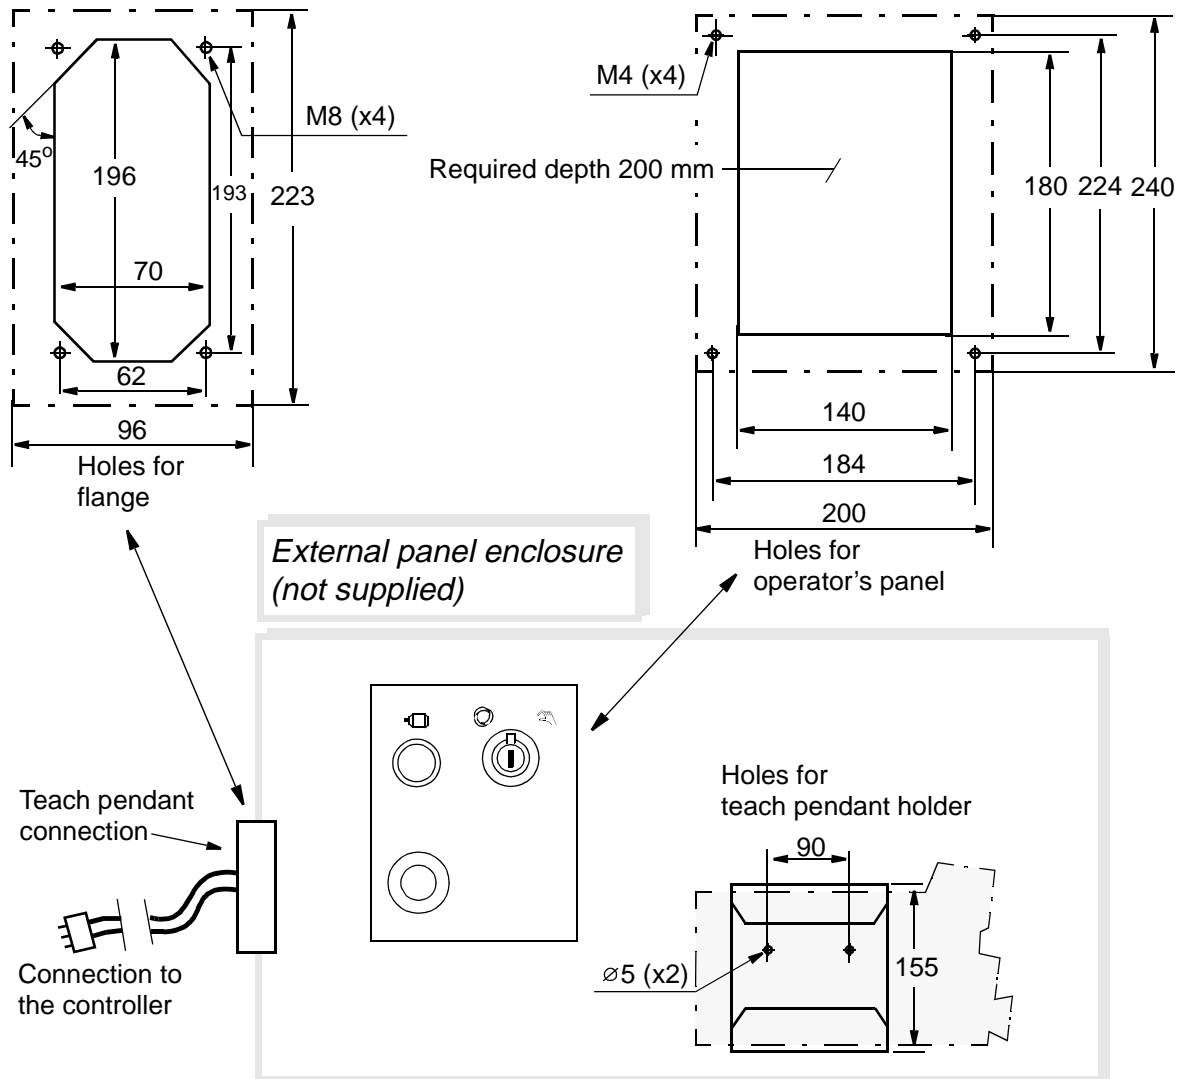

Figure 37 Required preparation of external panel enclosure (all dimensions in mm).
- 182 External, i.e. in a separate operator's unit. (See Figure 37 for required preparation)